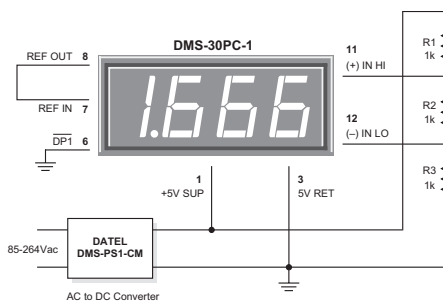

Figure 3. Differential Input Configuration
2. Differential Input Configurations: Differential measurements can be made with all DMS-30PC meters. Figure 3, though not a practical real-world application, uses a voltage divider to demonstrate the concept of a differential input signal. Be careful not to exceed the $\pm 2V$ common mode voltage limitation for 5V-powered meters.